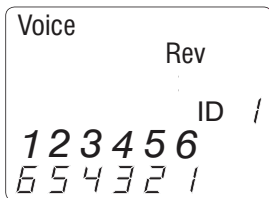

Figure 4. Voice Mode Test with Rev Cable
3. **Single Test:** To run a single test on the 6-position connected voice cable, press the VOICE MODE button. The following appears in the LCD display screen (see Figure 4):
4. **Continuous Test:** To run a continuous test, press and hold down the VOICE MODE button until “LOOP ON” appears in the display (see Figure 5 below). When looping is active, three small moving “bars” appear on the right side of the display screen. The display screen will update with the icons and values that appear during a single test (see Figure 4).